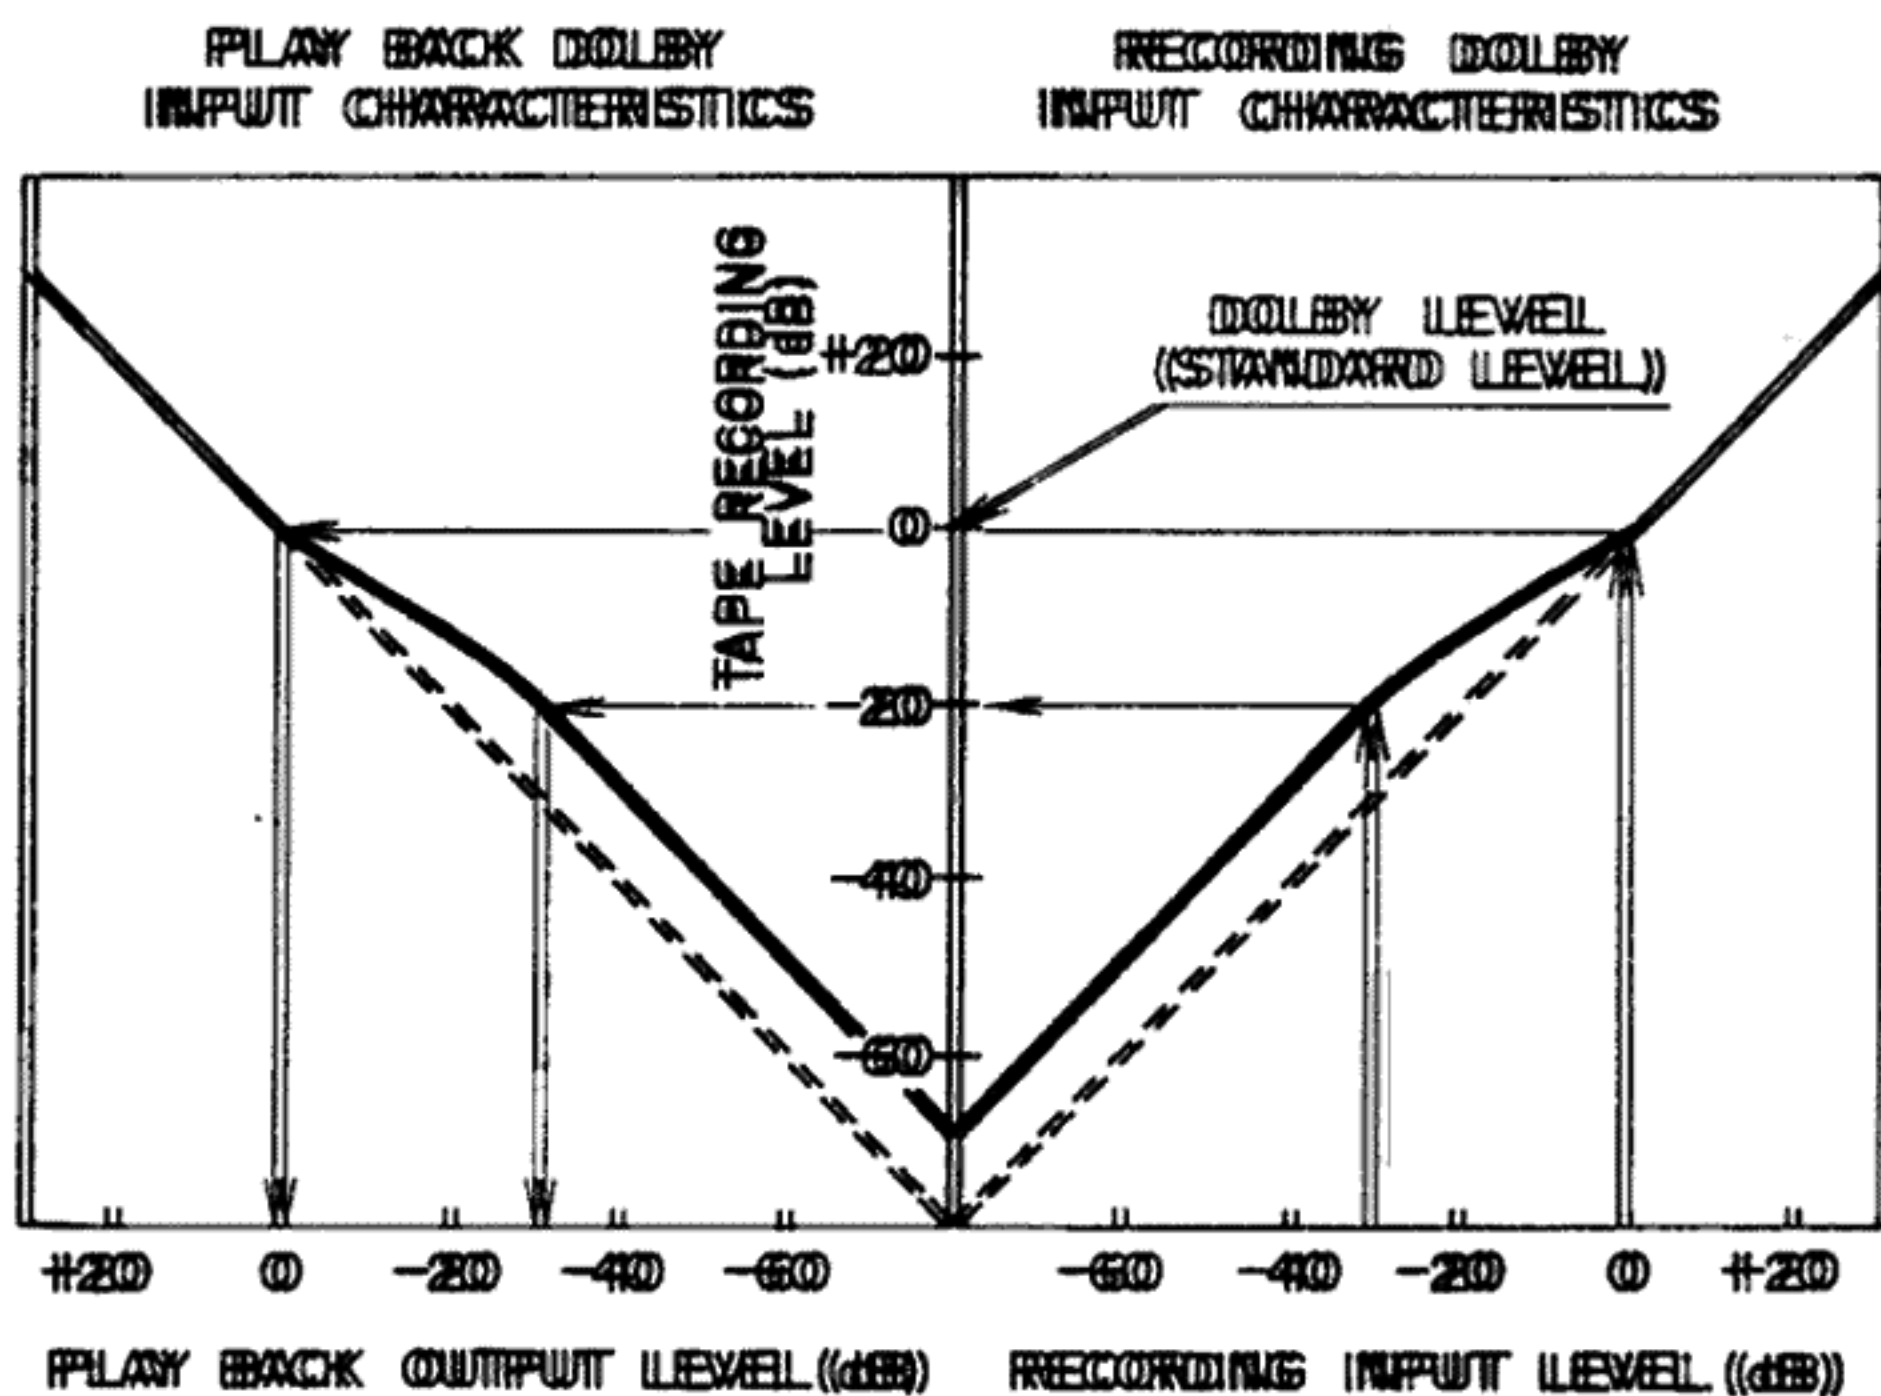

Fig. 31
- 6) At the Dolby recording circuit, output signal e_0 is recorded at a 10 dB higher level in relation to a 30 dB lower input level than the Dolby level (See Fig. 31) (Output signal e_0 , at over 400 Hz signal, becomes 10 dB higher than the input signal).
- 8) Because the output signal becomes $e_0 = e_1$, the relative ratio of the input and output signals become 1:1 (Fig. 31).
- 5) As shown in Fig. 31, with the Playback Dolby NR Circuit signals recorded above the Dolby level are played back at a 1:1 ratio, and signals recorded at a level of under -20 dB on the tape (Dolbyized recorded signals) are reduced by 10 dB and played back. At this time, because the noise level is also reduced by 10 dB, the S/N ratio is improved. Therefore the difference in function of Recording Dolby Circuit and Playback Dolby Circuit is in the phase relation of the signal supplied to point (b).